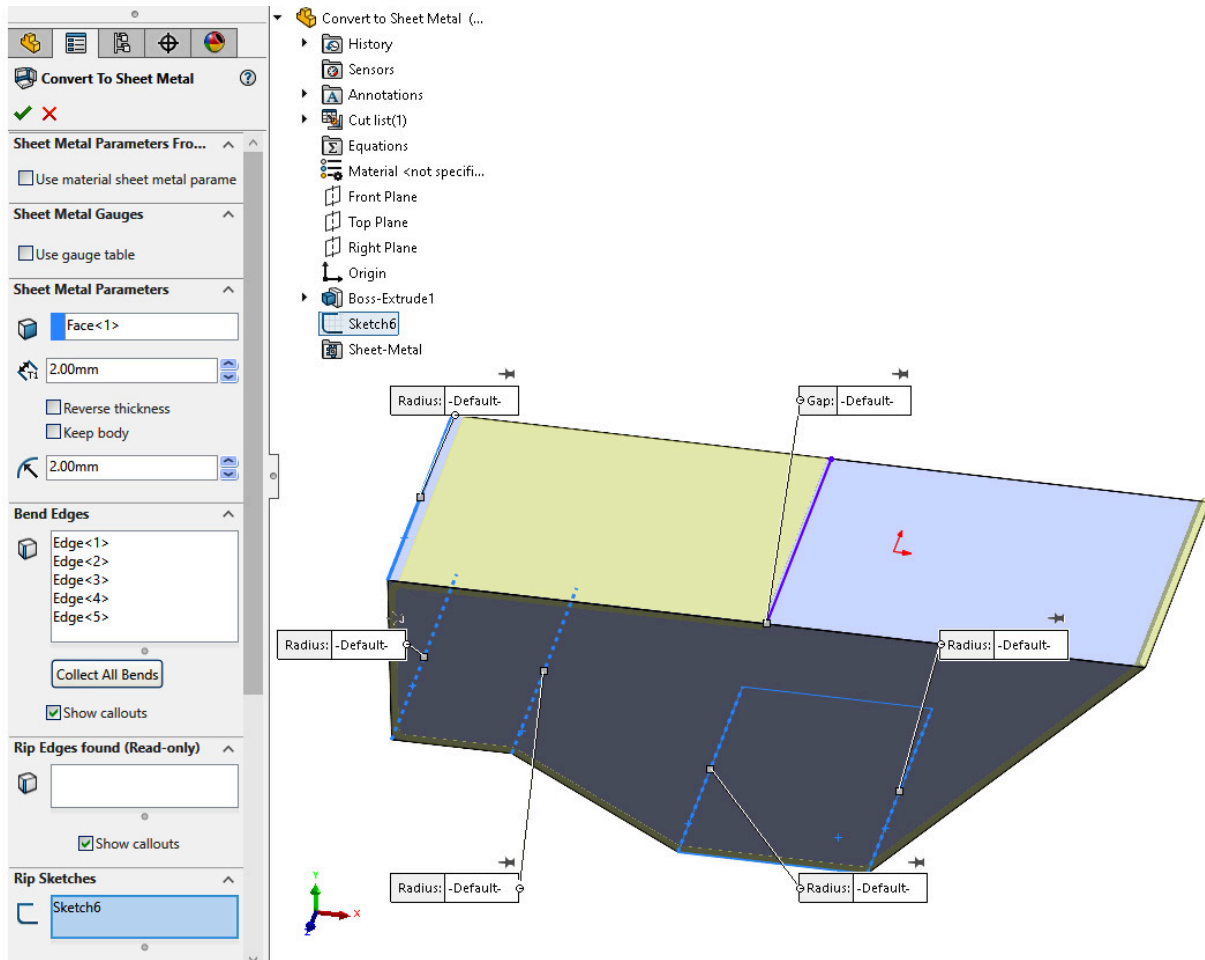

Figure 12.23: Select the Rip Sketch
5. Note that **Rip Edge** has still been automatically selected as the upper-right edge. However, we can manually change this to our Rip Sketch. To do this, click in the **Rip Sketches** selection box in the Property Manager, then select the Rip Sketch that we drew in Step 3 (Figure 12.23).